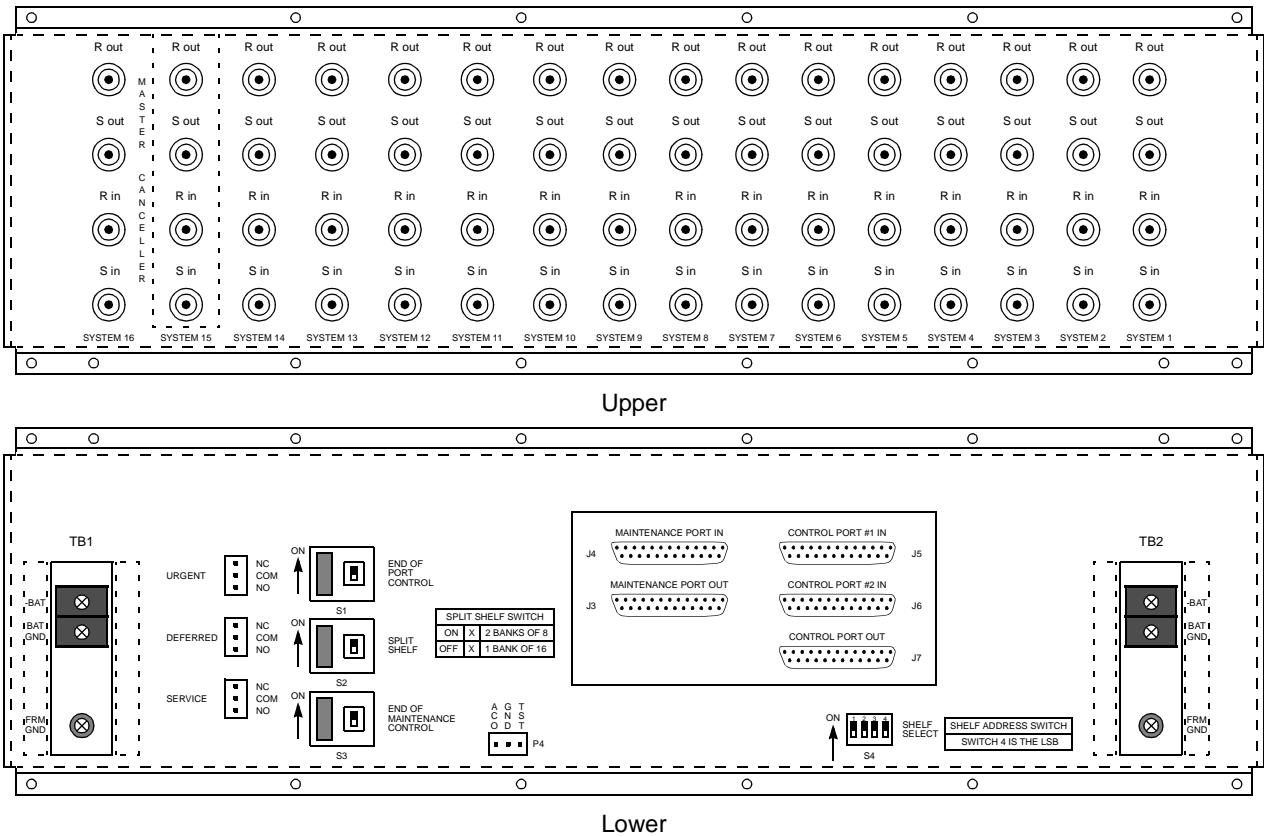
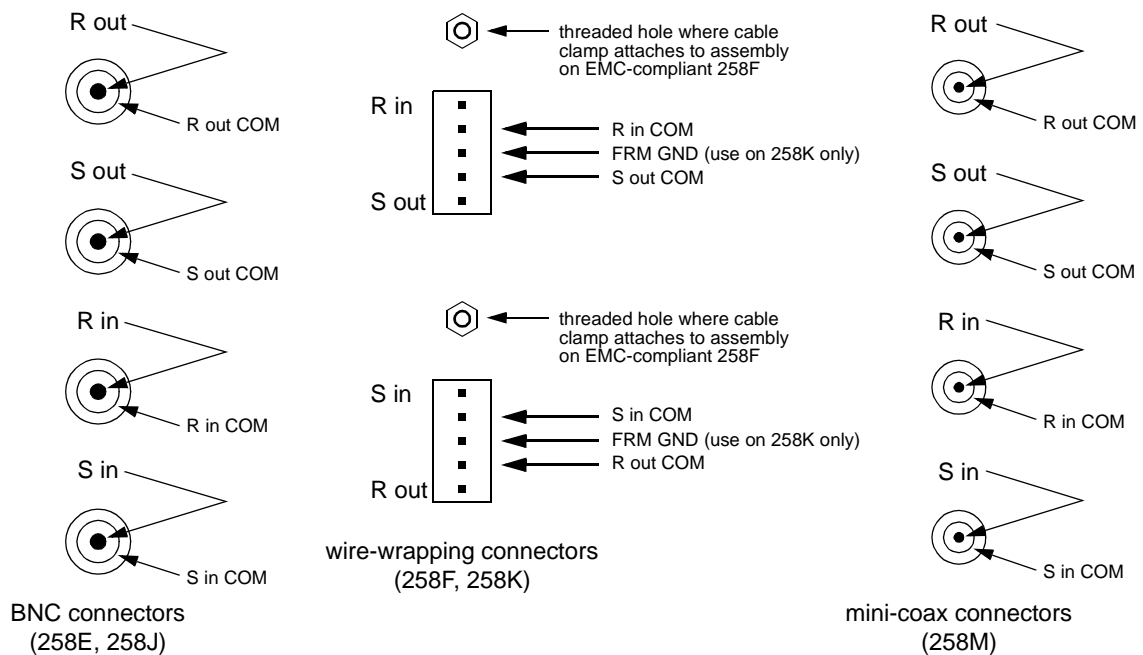

Figure 3-2 258E Mounting Assembly with BNC-Type PCM Connectors on Upper Portion
Figure 3-5 PCM Connectors Enlarged to Show Electrical Connection Detail
- 3.5 Figures 3-2, 3-3, and 3-4 show the backplanes of the BNC, wire-wrapping, and mini-coax versions, respectively, of the 258X assemblies. Please note that the lower portion of each version's backplane is identical. The versions shown are all EMC-compliant models, which
- 3.7 The PCM (E1) connections are made to the connectors on the upper portion of the assembly backplane. These connectors are of three types, depending upon 258X model: 75-ohm BNC (258E and 258J), 120-ohm wire-wrapping (258F and 258K), and 75-ohm mini-coax (1.6/5.6) (258M). Figure 3-5 shows the three types of connectors enlarged and with their electrical connections identified. (The locations of these connectors on the assembly backplanes are shown in Figures 3-2, 3-3, and 3-4 above.)